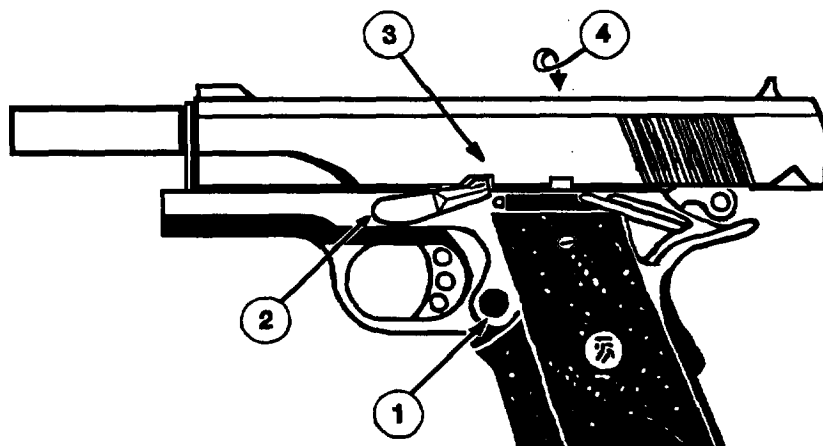

Figure 3-1. Clearing The Weapon
a. Remove Magazine. With the right thumb, depress the magazine catch (1), Figure 3-1, inward until the magazine drops from the pistol. Catch the magazine in the left hand.
b. Open Chamber. With the right thumb pushing up on the slide stop (2), use the left hand to pull the slide assembly rearward. Engage the slide stop into the slide stop notch (3). Watch for live round or empty cartridge to be ejected.